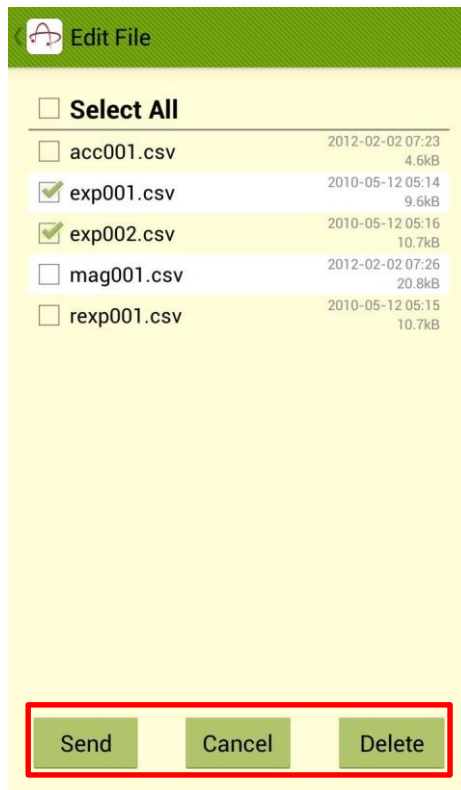

Fig 3.7
2. Select the file(s) to be deleted or sent (Fig 3.7).